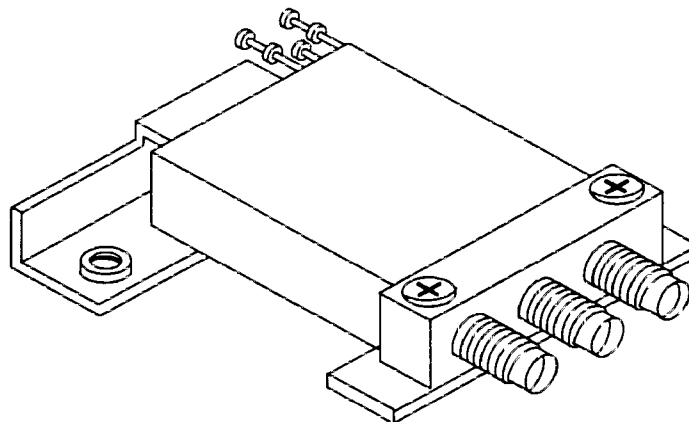

Figure 3-20. A12 Mounting Bracket
1. Attach the mounting bracket to the A12 RF switch as illustrated in Figure 3-20.